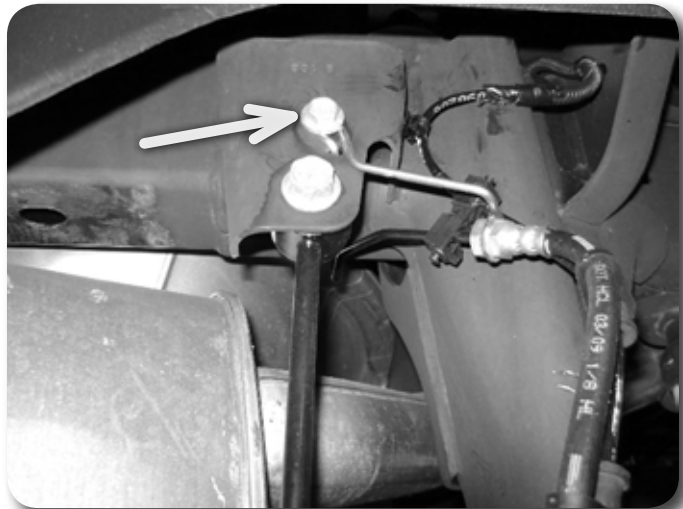

Figure 20
70. Disconnect brake line brackets from the outside of the frame rails. Remove the ABS wires from the retaining clips. **Figure 20**